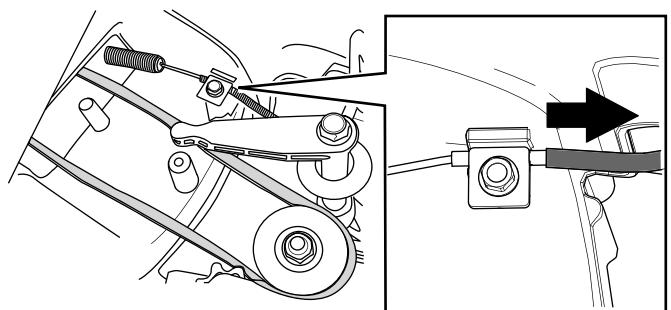

Figure 34
- Pull the cable jacket to remove slack (Figure 34).